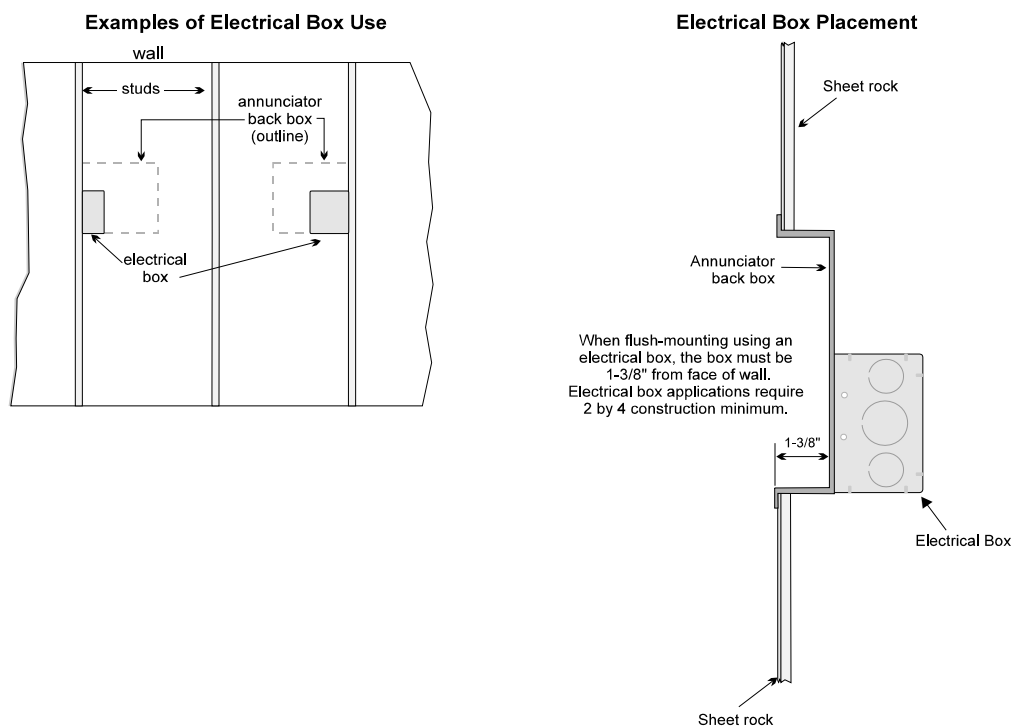

Figure 4.13 Placement of Electrical Box for Flush Mounting
1. Cut a hole in the sheet rock to the following dimensions: 8-1/4" W x 6-5/8" H. If an electrical box is used, the box must be 1-3/8" back from the face of the wall to accommodate the annunciator (see Figure 4.13).